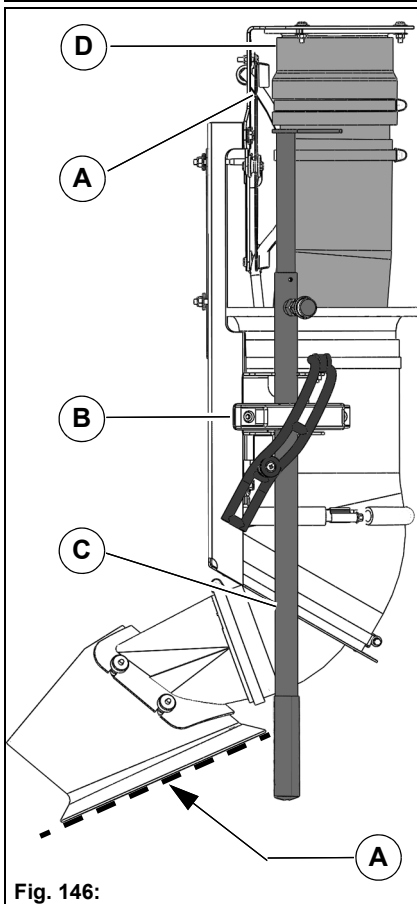

Fig. 146:
The 4 metre long hand suction hose **Fig. 146-D** is used for effectively cleaning places difficult to reach.
2. If necessary take the insert plate **Fig. 146-A** out from the holder and push it under the rubber seal.
3. Loosen the lock **Fig. 146-B** and pull the hand suction hose down and out from the holder.
4. Hold the hand suction hose with the handle **Fig. 146-C** and clean the surface. If required, adjust the handle rod to length with the locking bolt. After cleaning push the hand suction hose against the holder. The hand suction hose withdraws automatically due to the vacuum.